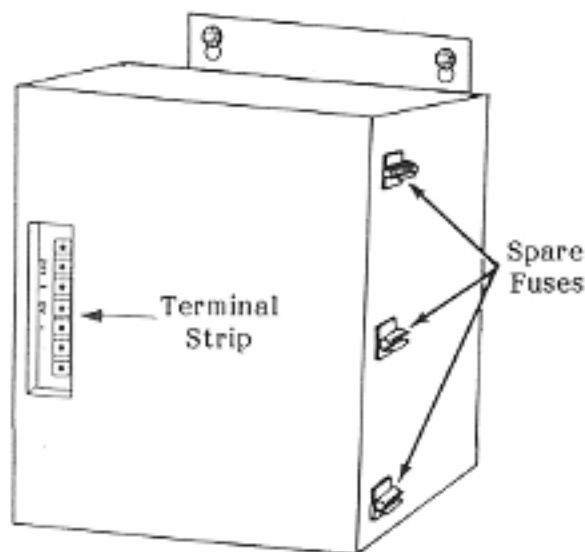

FIGURE 1
01.01 The EPSA-104 is equipped with a built-in wall mounting bracket, as shown in Figure 1, to allow it to be mounted on a wall or other flat, vertical surface.